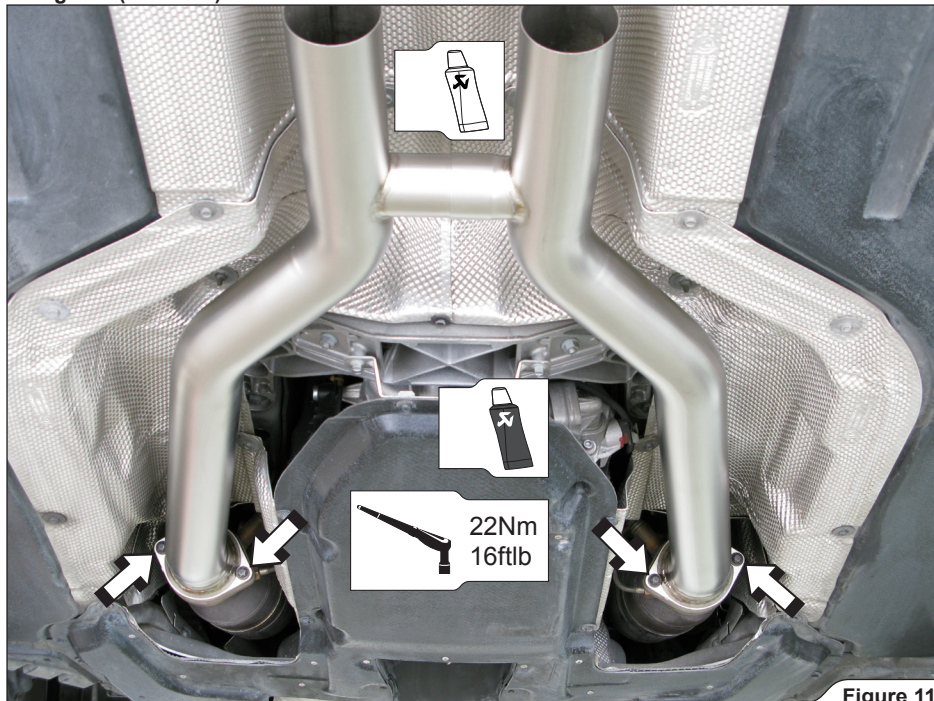

Figure 11
4. **For Evolution:** assemble the Akrapović front pipes on the stock header pipes using stock bolts and nuts (Figure 11).